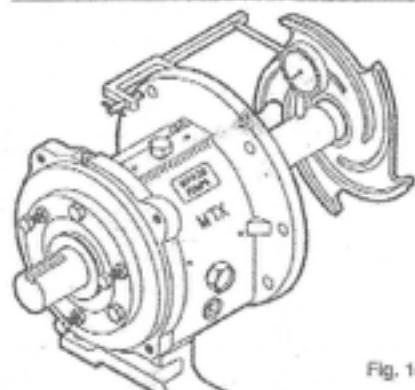

Fig. 140
3. Check shaft/sleeve runout. Pull on shaft sleeve if used, and thread on impeller, hand tight. Rotate shaft 360 degrees. If total indicator reading is greater than .002 in., disassemble and determine cause. Remove impeller and shaft sleeve (Fig. 140).